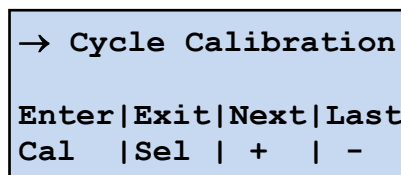

Figure 56. Cycle calibration screen.
5. Press the  button to accept the selected values and return to the **Cycle Calibration** screen (see Figure 56).